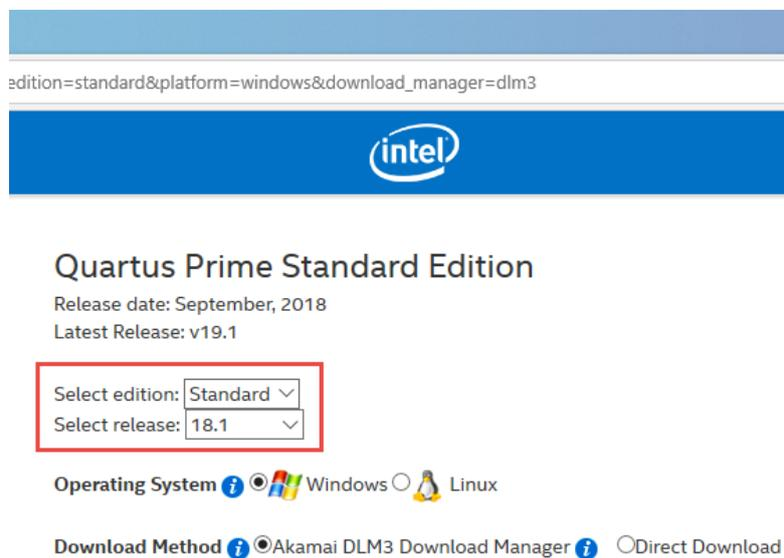

Figure 4-2 Select Quartus edition and release
- As shown in **Figure 4-2**, set the “Select edition” to **Standard** and set “Select release” to **18.1**. **(In order to properly execute the power monitor, please install 18.1 standard version)**